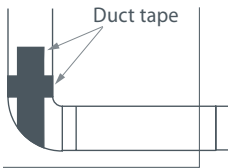

Fig.28 Securing joints correctly with duct tape
- Use duct tape (as shown in Figure 28) to secure the joint between the dryer internal duct and the elbow, and also the joint between the elbow and the side duct.
- Secure the joint between the internal duct and elbow with duct tape, as shown in Figure 28 (page 37).